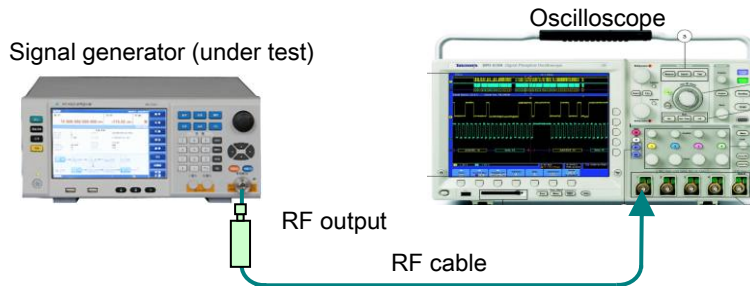

Fig. 8.7 Test on rise/fall time for pulse modulation
- 1) Connect equipment as shown in Figure 8.7, start up the instrument, and warm it up for at least 30 min.